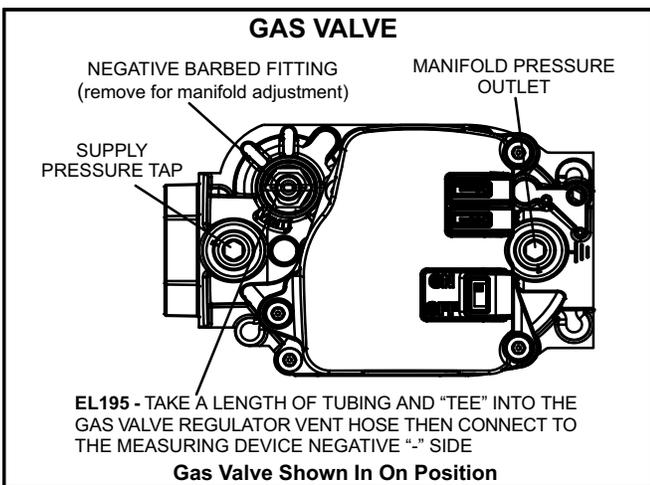

FIGURE 6
- 6 - Move gas valve switch to **OFF**. See figure 6.
- 7 - Wait five (5) minutes for any gas to clear out. If you then smell gas, **STOP!** Immediately call your gas supplier from a neighbor's phone. Follow the gas supplier's instructions. If you do not smell gas, go to the next step.
- 8 - Move gas valve switch to **ON**. See figure 6.
When testing supply gas pressure, use the 1/8" N.P.T. supply tap located on the gas valve to facilitate test gauge connection. See figure 6. Check gas line pressure with unit firing at maximum rate. Low pressure may result in erratic operation or underfire. High pressure can result in permanent damage to gas valve or overfire.
When testing manifold gas pressure, use the 1/8" N.P.T. plugged tap (manifold pressure outlet) located on the gas valve to facilitate test measuring device. See figure 6.
- 7 - Remove the negative barbed fitting as shown in figure 6 and using a screw driver make adjustment to increase or decrease manifold pressure.